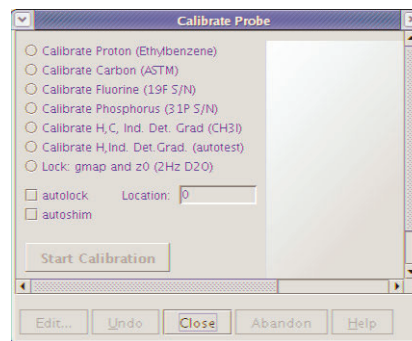

Figure 10. Probe
5. Click a **radio** button in the Calibrate Probe window to select the calibration experiment, see Figure 10.